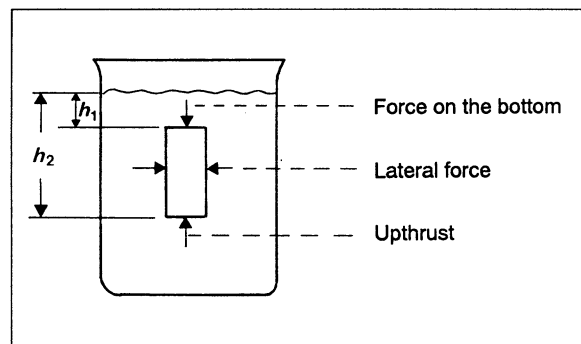

Fig. 2 Forces at work on a body in the water.
14. What forces are working on the aluminium cuboid in the water and what are they caused by? Label the diagram in fig. 2 to show: